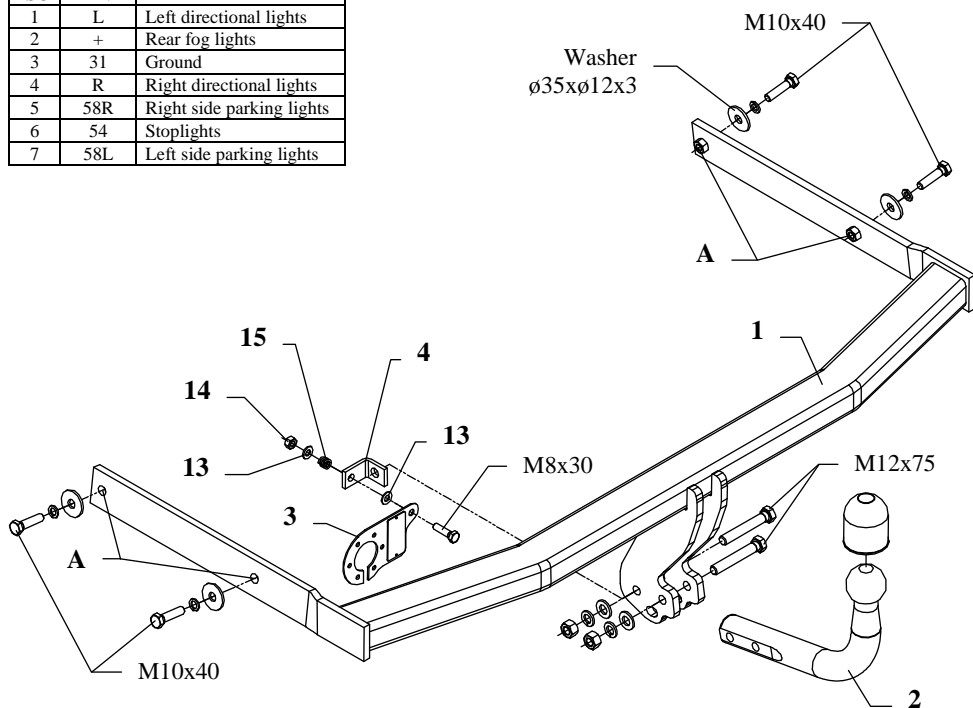
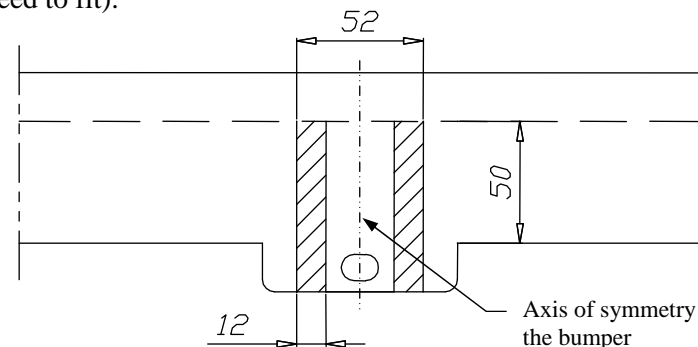

Fig. 1
Fig. 2
2. Make cut outs (see fig. 2) in the bottom of the bumper. If you use moveable socket plate (see fig. 1) it is necessary to cut out major part of the bumper (you need to fit).